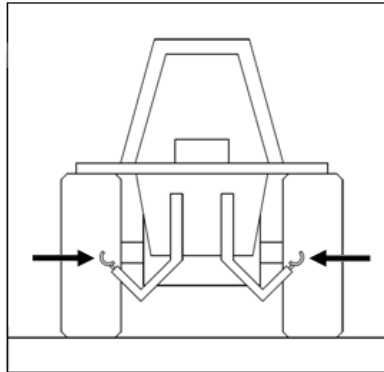

Figure 14
2. Move the tractor in reverse until the rear lifting bars reach the couplings of the mulcher (figure 14);